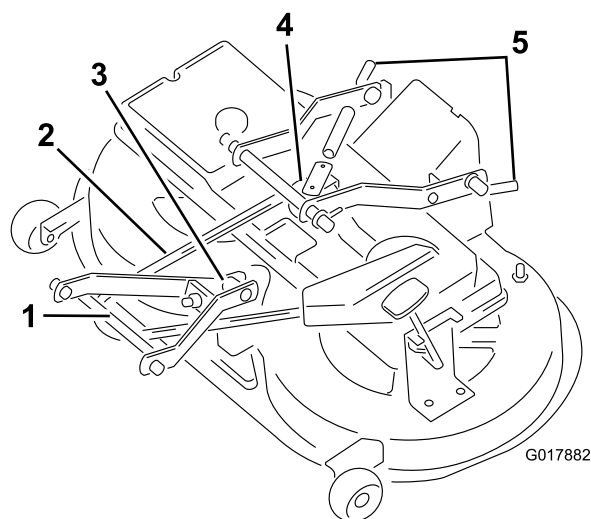

Figure 45
9. Pull the idler arm assembly inward and remove the V-belt from the pulley (Figure 45).
11. Remove the pin between the front arm linkage and the mower housing (Figure 45).
12. Remove the V-belt from the engine pulley (Figure 45).